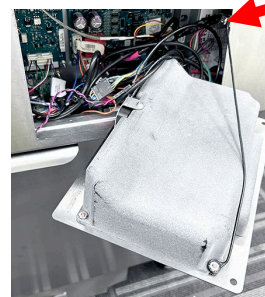

Figure 18
12. With the replacement controller face down resting in the control box, with the large protruding housing towards the bottom of the controller, **reattach the lanyard tether FIRST**. Failure to reinstall the lanyard may result in damage to the SIB board connectors when connecting or disconnecting cables (see Figure 18).